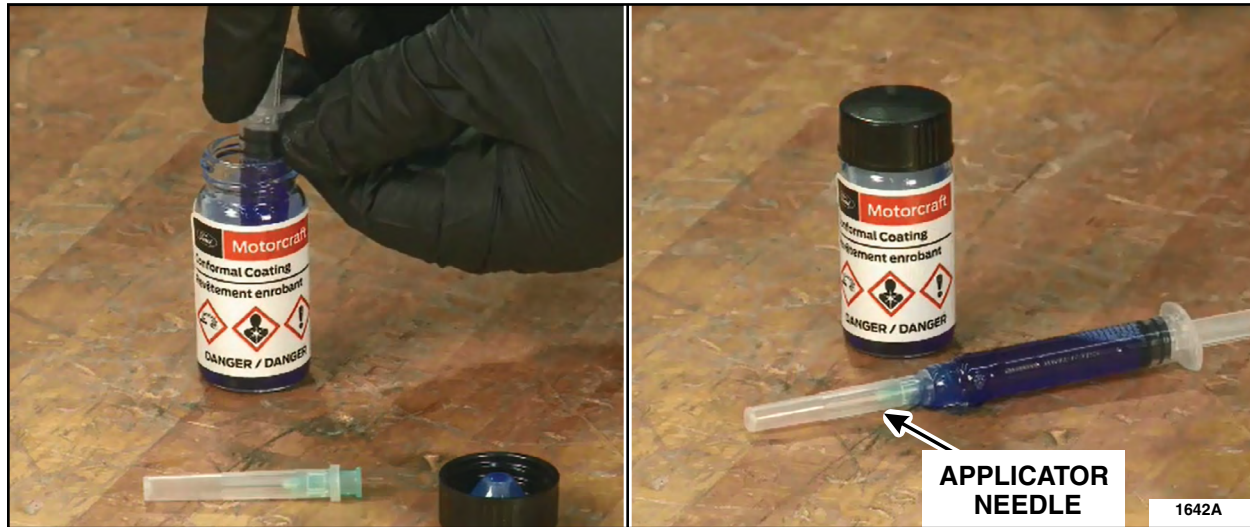

FIGURE 2
- Using the syringe and conformal coating chemical provided in the service kit, draw 3 ml of conformal coating chemical into the syringe, then screw on the applicator needle to the end of the syringe. See Figure 2.